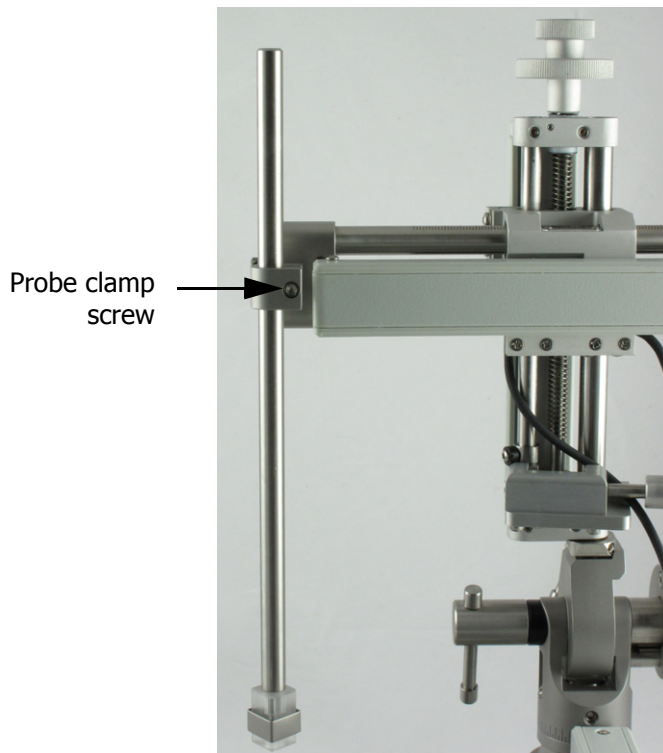

Figure 20. The probe shaft screw
- (i) Use a 3/32” Allen wrench to undo the probe shaft screw (see Figure 20).
1. Use a 3/32 inch Allen wrench to undo the probe shaft screw (see Figure 20).